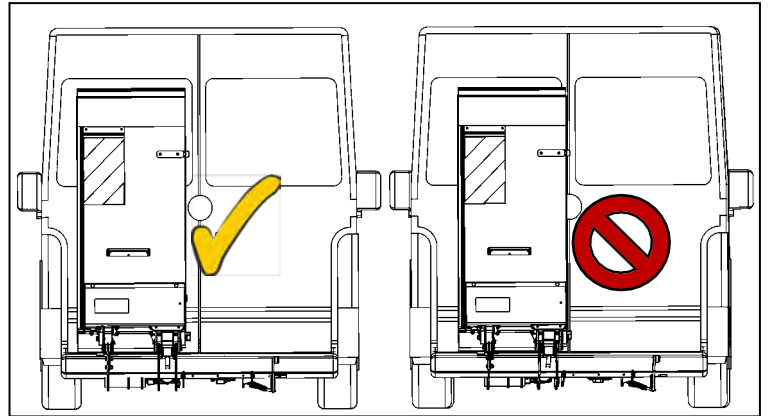

Figure 34
- Shift the lifting gear to the left so that the brand emblem on the rear door does not collide with the platform (see Fig 34).